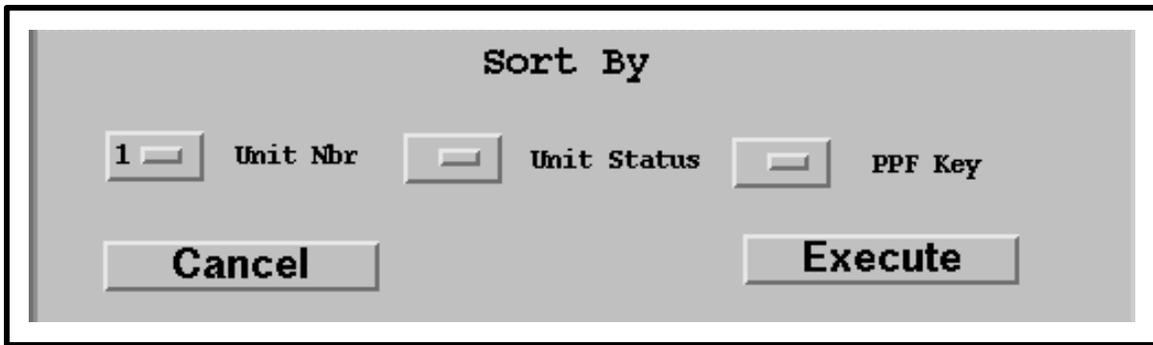

Figure 38. Sort Dialogue Box
The units to be displayed on the **OI Detail Screen** (Figure 34) can be sorted using the **Sort Dialogue Box** (Figure 38). The sorting can be done on the basis of the following criteria, either individually or in combination:
- The **Sort Dialogue Box** (Figure 38) is displayed.